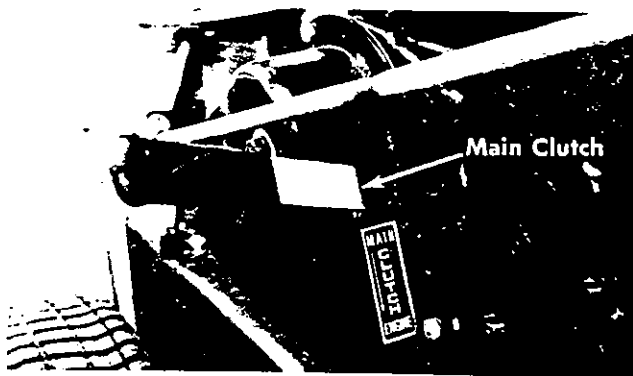

FIGURE 1.
**Main Clutch.** This clutch shuts off the power to the wheels and auger. When the handle is up it is in the disengaged position. Always shut off the main clutch when engaging and disengaging the auger clutch. (Shown in the disengaged position.) (See figure 1.)